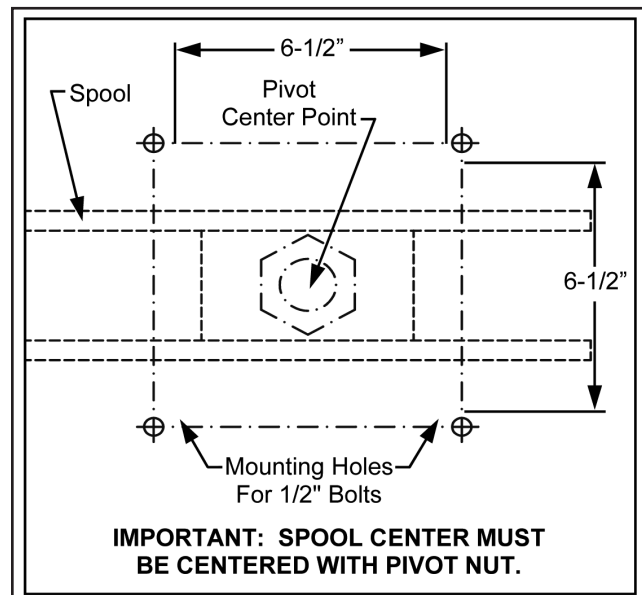

Figure 10-3 Pivot Base Mounting Hole Spacing
- The P2 Pivot Base requires four (4) 1/2" mounting bolts (reel to pivot base mounting hardware included).
- See **Figure 10-3** for hole spacing requirements for the P2 Pivot Base.